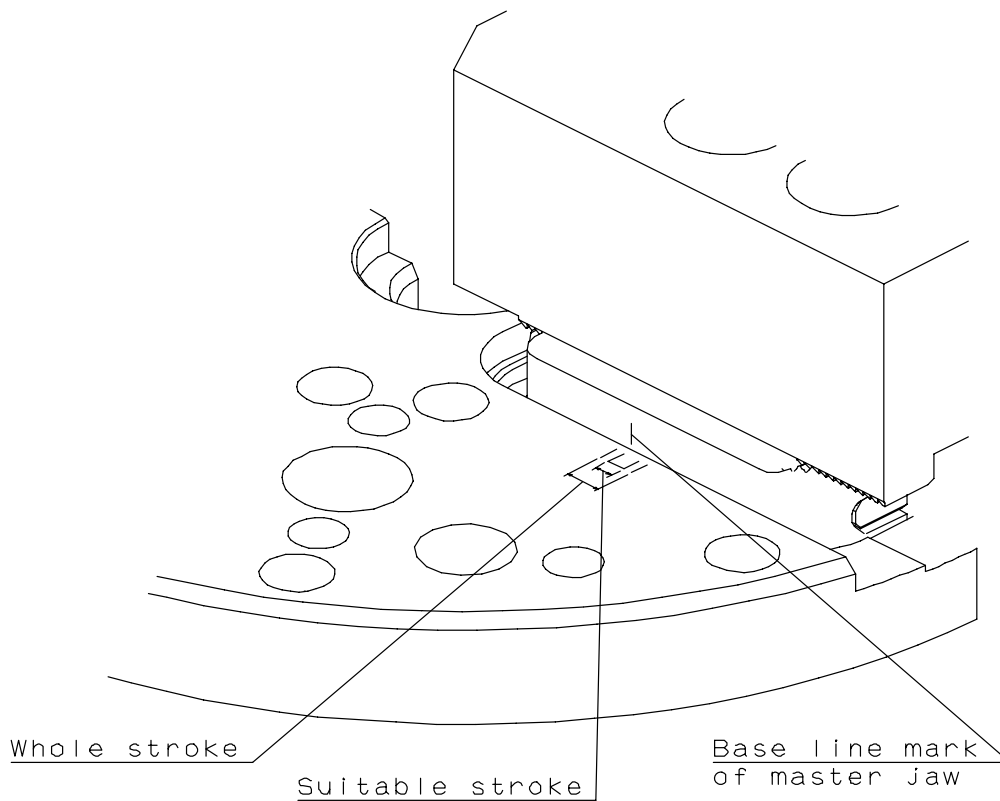

Fig.17
- Check that the reference mark on the side of the No. 1 master jaw is within the range of the entire stroke as shown in Fig. 17. Full stroke the jaw at least once a day to check it before work or when supplying grease, etc. If it goes out of the range of appropriate stroke due to loosening of the draw screw, etc., the work may not be gripped, and this is dangerous as the work will fly out.